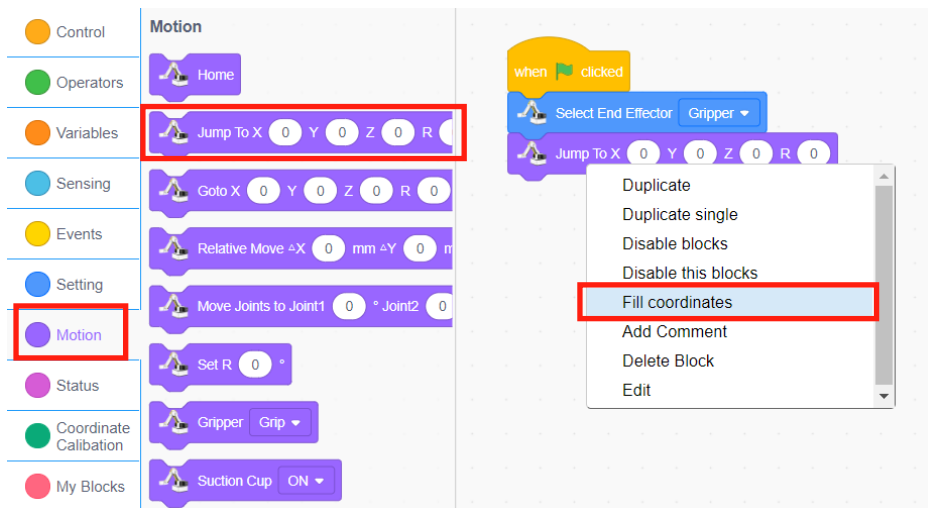

Figure 1.12 JUMP move onto the stamp
Step 8: Press the unlock button on Magician Lite and move the end of the robotic arm to the stamp. Click the "**Motion**" tab, drag the "Jump To (X, Y, Z, R)" block, and put it together with the previous block. Right-click and select "Fill coordinates", as shown in Figure 1.12.